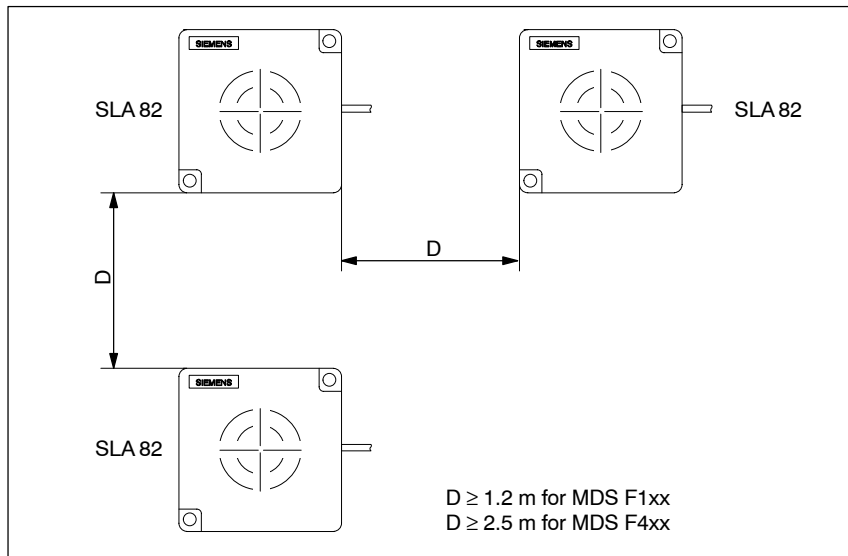

Figure 5-32 Distance D: SLA 82
Minimum distance from SLA to SLA (D)	See figure 5-32.